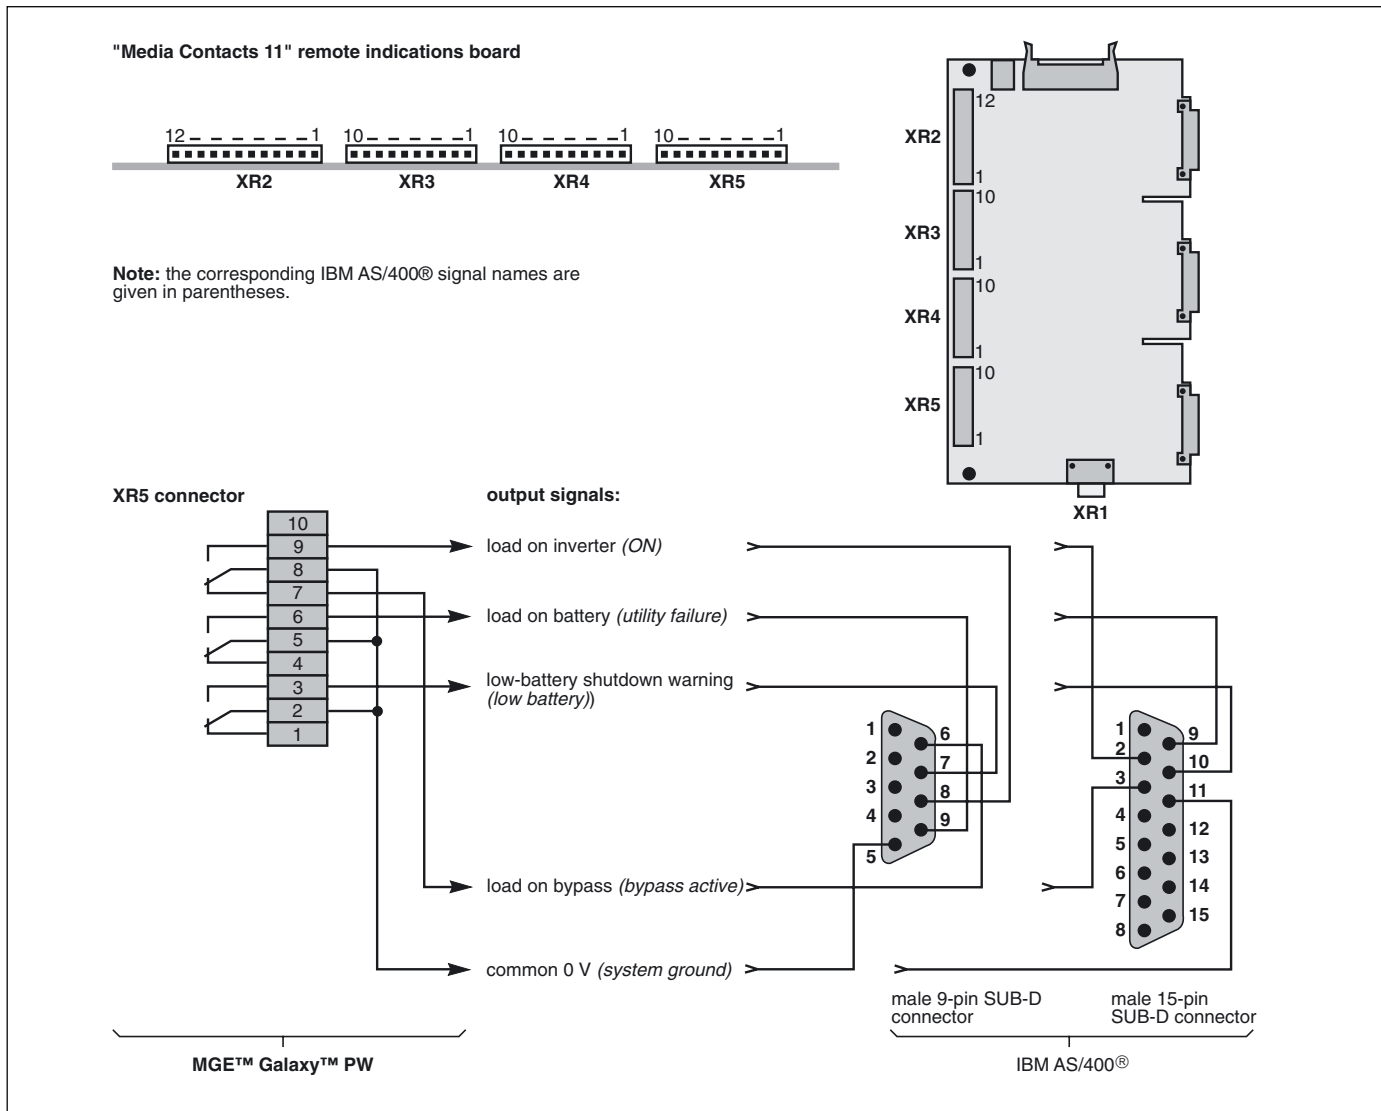

Fig. 35
- ▶ see figure 35 below for the wiring diagram. A five-wire cable (not supplied) is required;